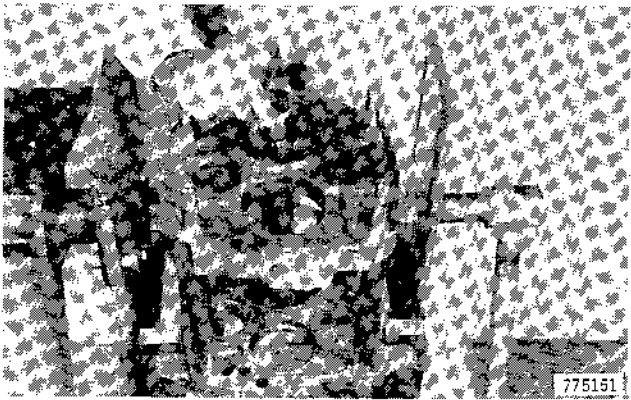

Figure 158
3. Install the shaft spacer, Figure 158.